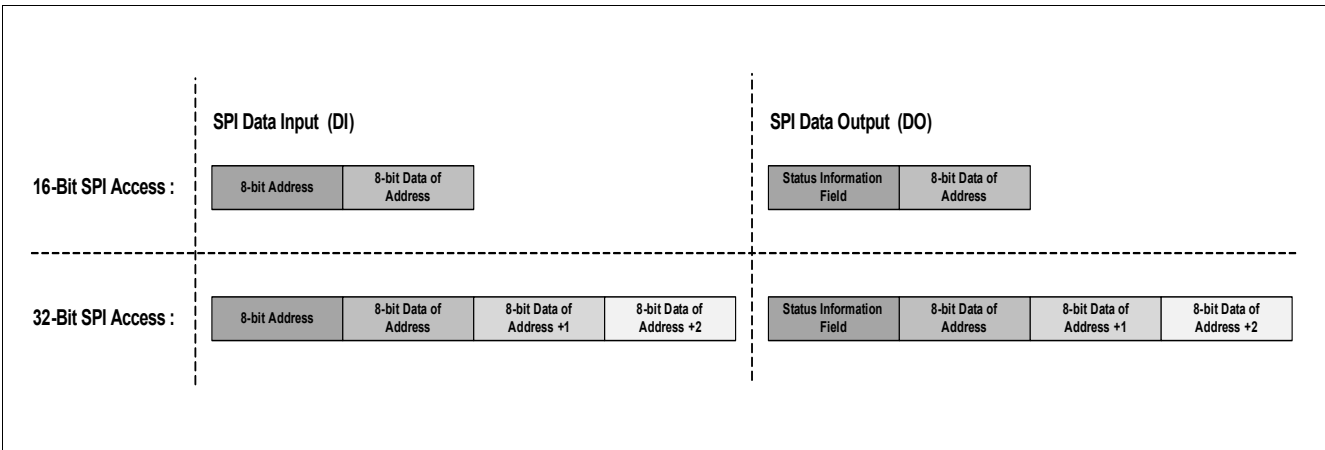

Figure 46 Data access for 16- and 32-bit SPI commands
The TLE9461-3ES is supporting multi-slave operation in full-duplex mode with 16-bit and 32-bit data access (see also Figure 46).
The operation of the 16-bit and 32-bit SPI data access is shown in Figure 46.
- following the data byteThe numbering of following bit definitions refers to the data byte and correspond to the bits D0...D7 and to the SPI bits 8...15. In case of 32-bit SPI commands, the data bytes from the next valid address are accessed (see also Figure 46).